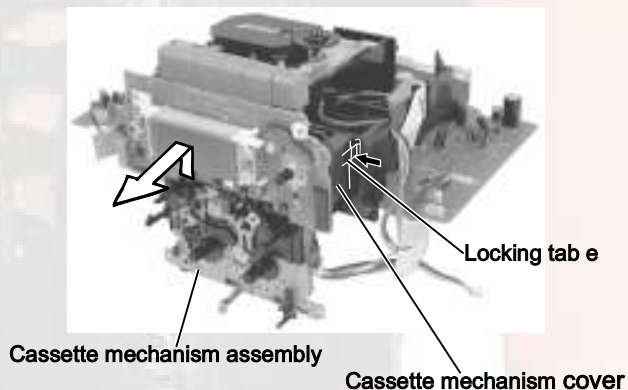

Fig.13
■Removing the cassette mechanism assembly (See Fig.13 to 15)